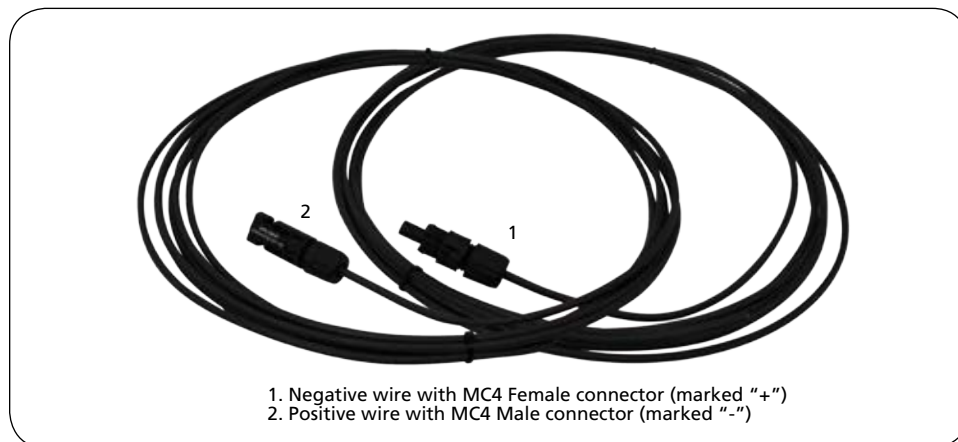

Fig. 8.5. Solar Panel Connecting Wires kit "SCW-20-2"
3. Solar Panel Connecting Wires kit "SCW-20-2" consisting of 2 pre-assembled, 20 ft, AWG #12, Positive (+) & Negative (-) PV extension wires have been provided (see Fig. 8.5). The wires have MC4 mating connectors on one end for connecting to the solar panel & bare ends on the other side for connecting to the Charge Controller. The wires are marked (+) & and (-) for identification of the polarity.